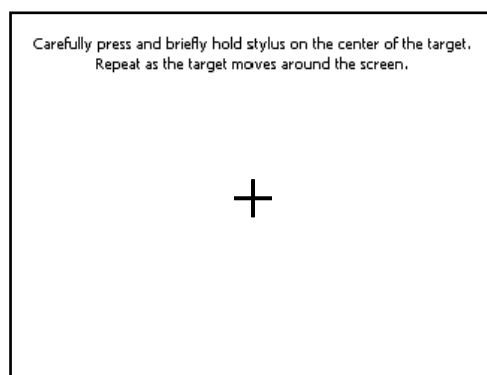

Figure 5-3. Touchscreen Calibration Window
3. The pendant will complete the boot-up process and open to the Touch Screen Calibration window. See Figure 5-3 on page 42. You must now perform the calibration process, as instructed on the screen. Once that process is completed, tap the screen and the pendant will return to the main screen.